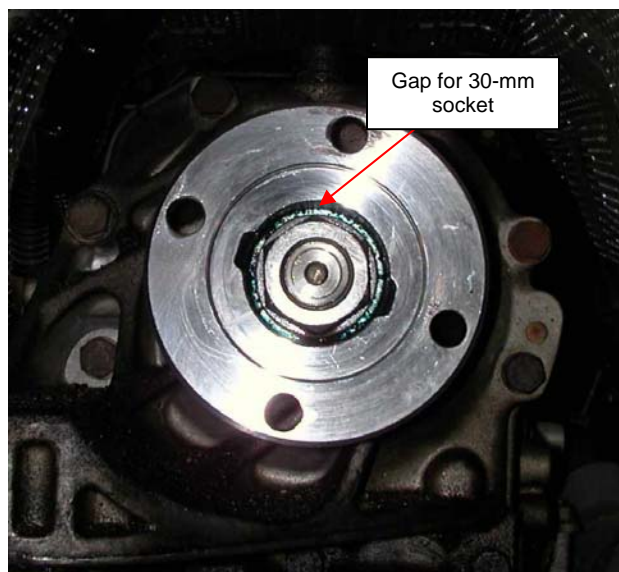

Fig. 10 Output flange with tab washer removed
- b. Place a normal 30-mm socket on the nut (I think the walls of an impact socket may be too thick to fit in the gap between the nut and flange i.d. wall, but I did not verify this) (see Fig. 10) and position a bolt slipped through one of the flange bolt